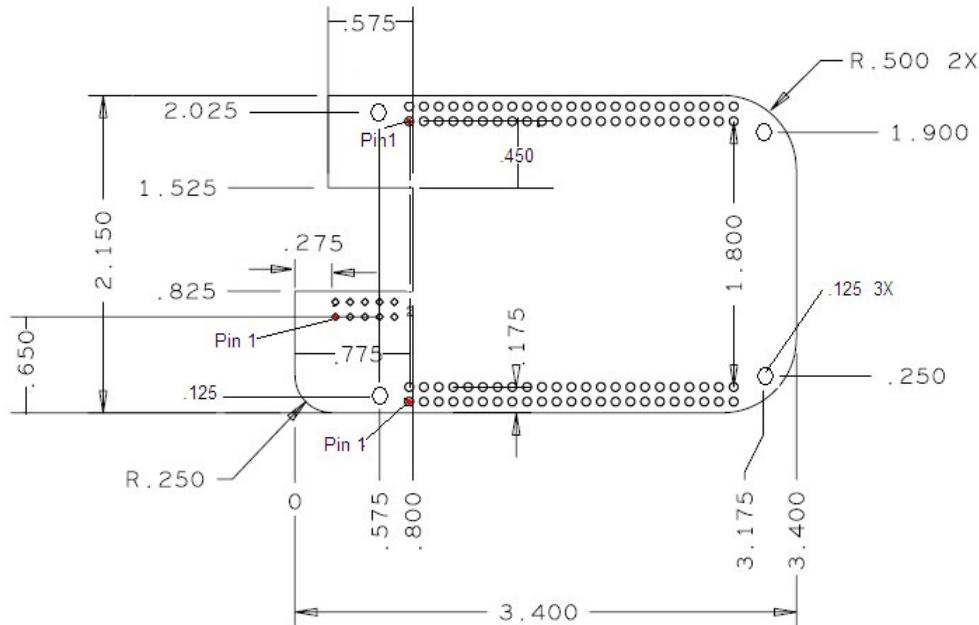

Figure 70 Cape Board Dimensions
**Figure 70** is the outline of the standard cape. The dimensions are in inches.